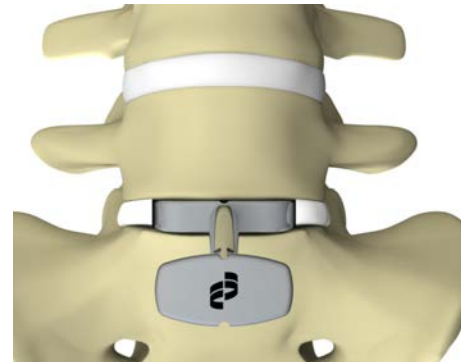

Fig. 1
- An Endplate Sizer is recommended be used as a template to indicate if the width of the annulotomy is sufficient to receive the implant (M and L) (Fig. 1).